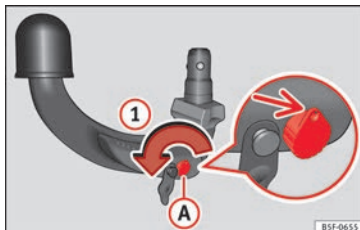

Fig. 226 Step 1
- Turn the key in the direction of arrow ① until the part of the key with the holes reaches the top position »» Fig. 226.